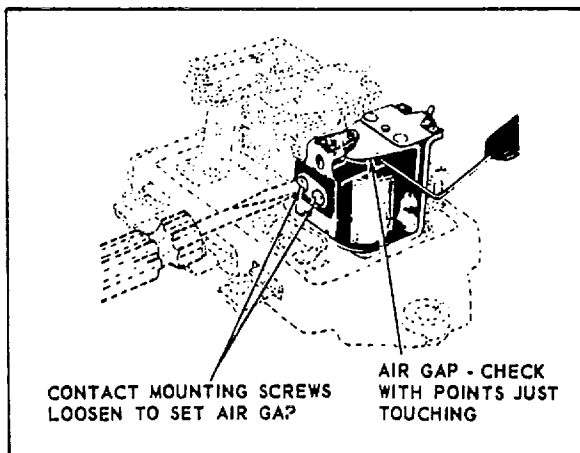

Figure 7-1F. Voltage Regulator Adjustment
a. To check the air gap, push armature down until the contact points are just touching and then measure the air gap. (See figure 7-1F.) Adjust by loosening the contact mounting screws and raising or lowering the contact bracket as required. (See Table V for the proper air gap setting.) Be sure the points are lined up and tighten screws after adjustment.